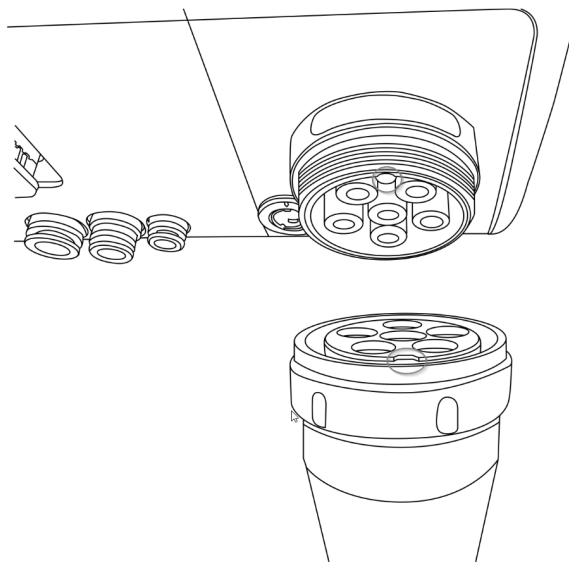

Figure 2: Alignment key on Bulkhead Connector
1. Attach Patient Valve (A) to VitaloLAB device by screwing Patient Valve Bulkhead Connector (I) onto its component on back of device. The Bulkhead Connector alignment key should be in correct alignment to the connector on back of device (Figure 2).